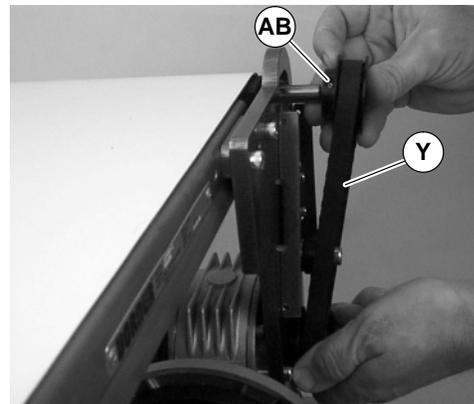

Figure 20
- c. If timing belt does not slide over pulley flange, loosen driven pulley set screws (AB of Figure 20) and remove pulley with belt (Y).